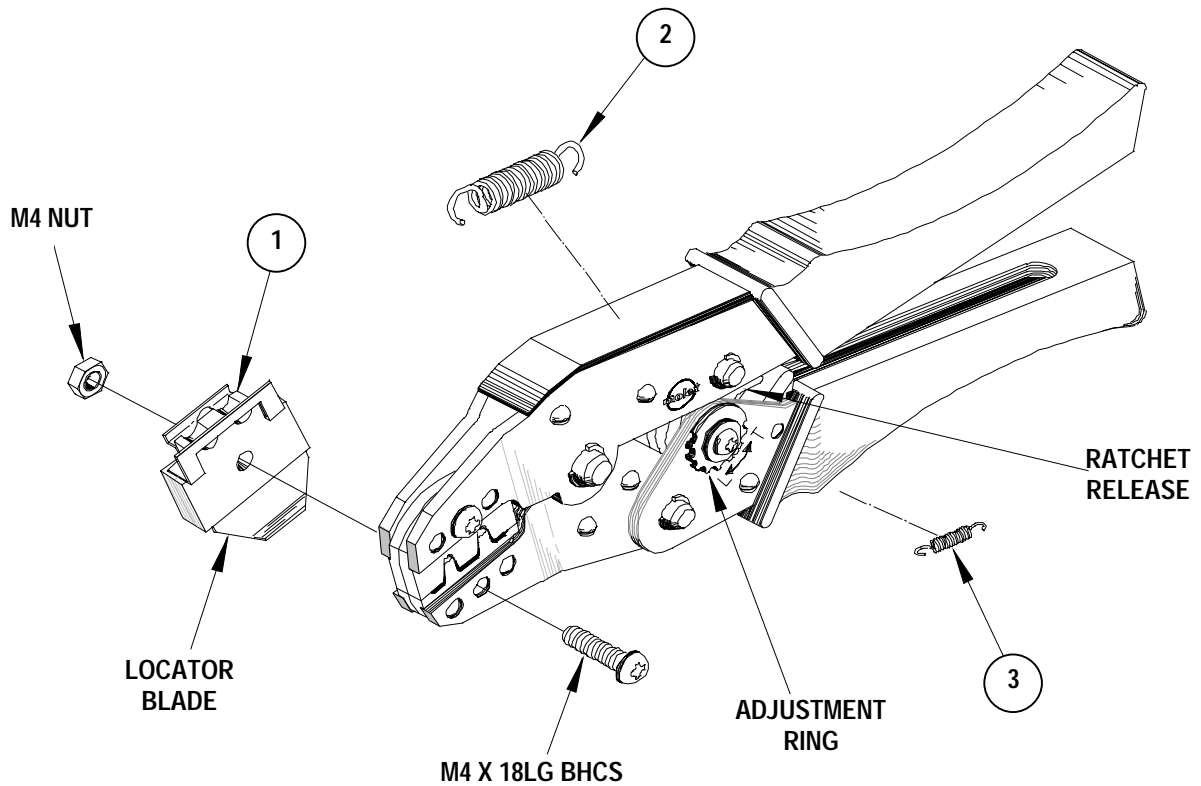

Figure 4
4. Close the tool until the ratchet releases, (See Figure 4).
Should this tool ever become stuck or jammed in a partially closed position, **Do Not force the handles open or closed**. The tool will open easily by lifting the ratchet release lever (See Figure 4).
## How To Adjust Tool Crimp Force (See Figure 4)